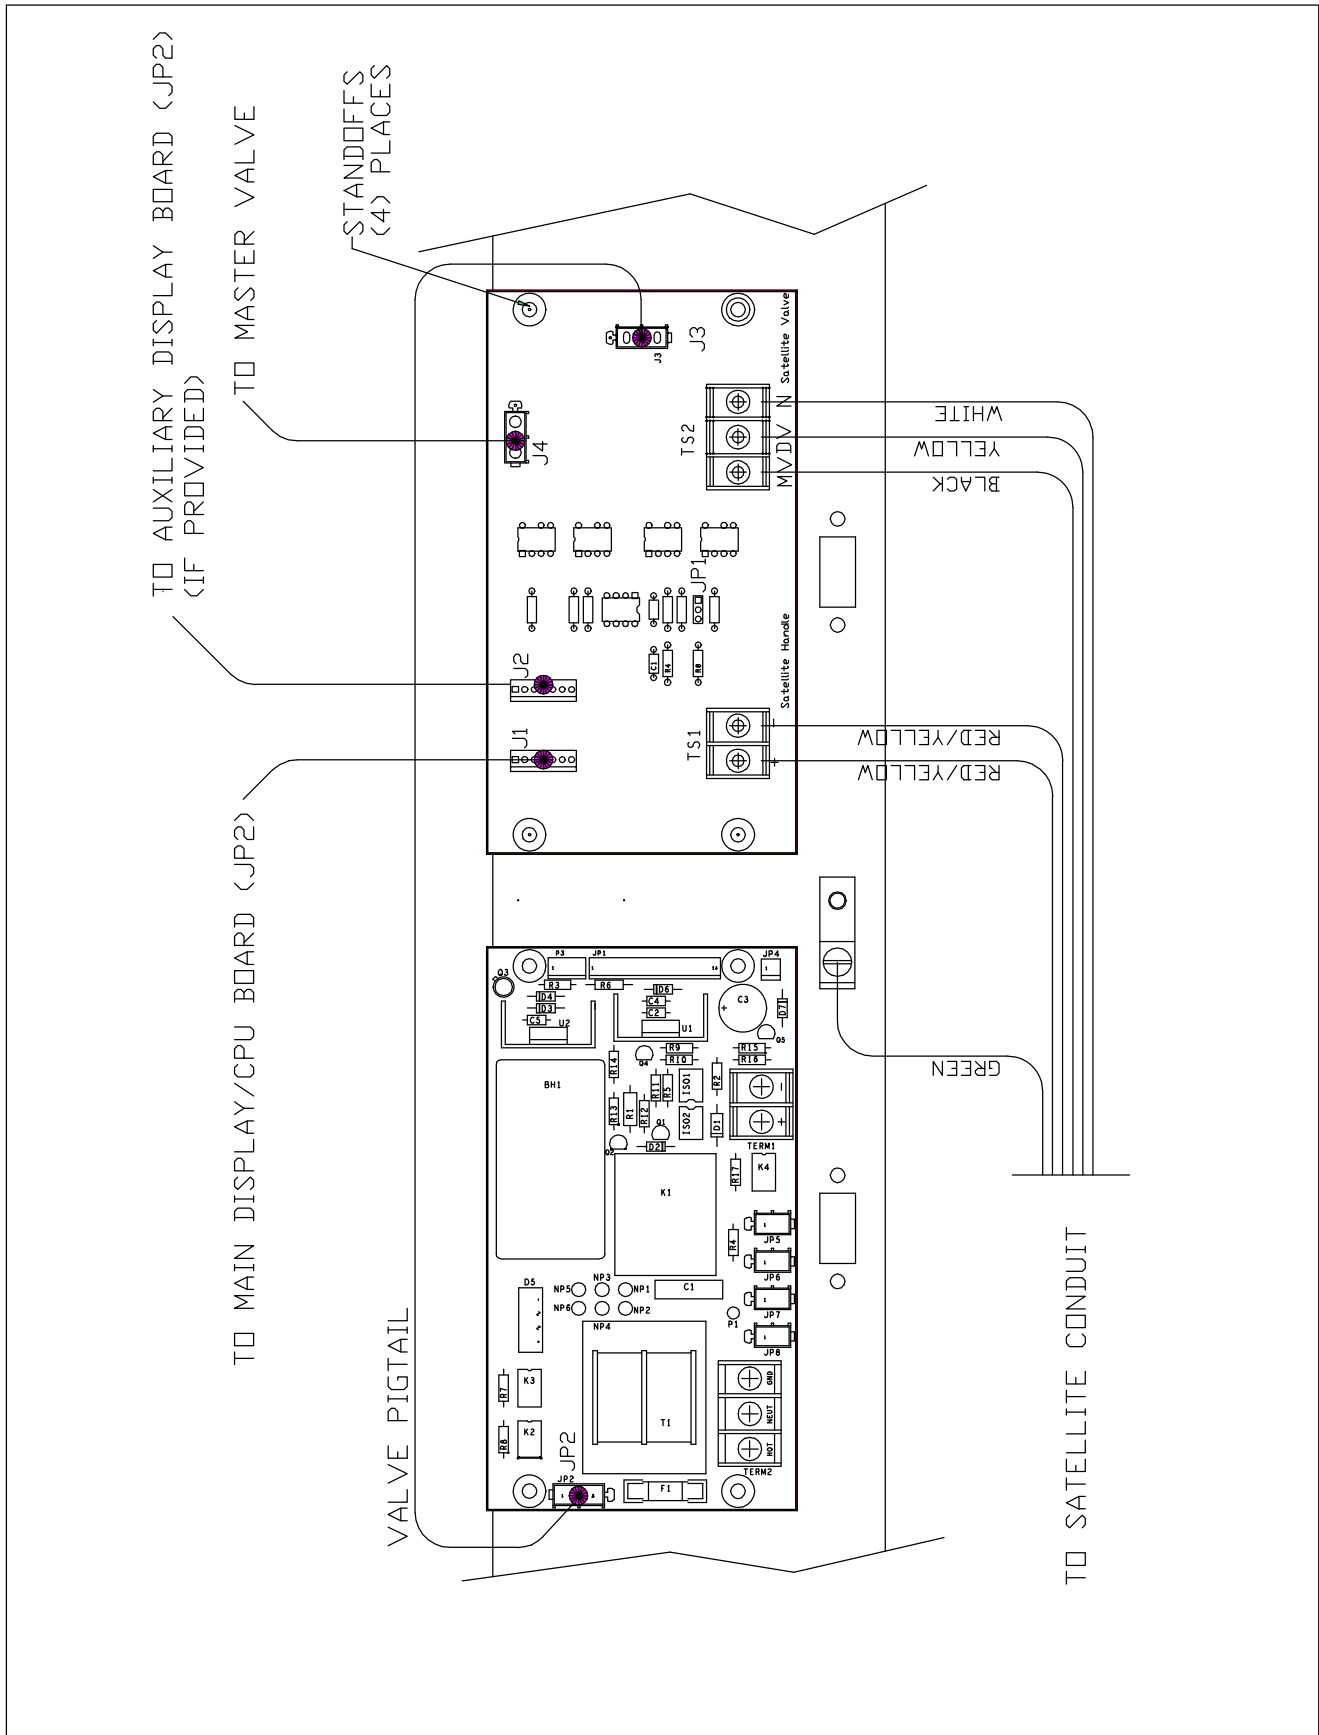

Figure 3
2.2. Install the 4 circuit board standoffs into the 4 holes on the channel rail to the right of the Power Supply / IO board. Mount the Satellite control board on these 4 standoffs. See Page 8 Figure 3.